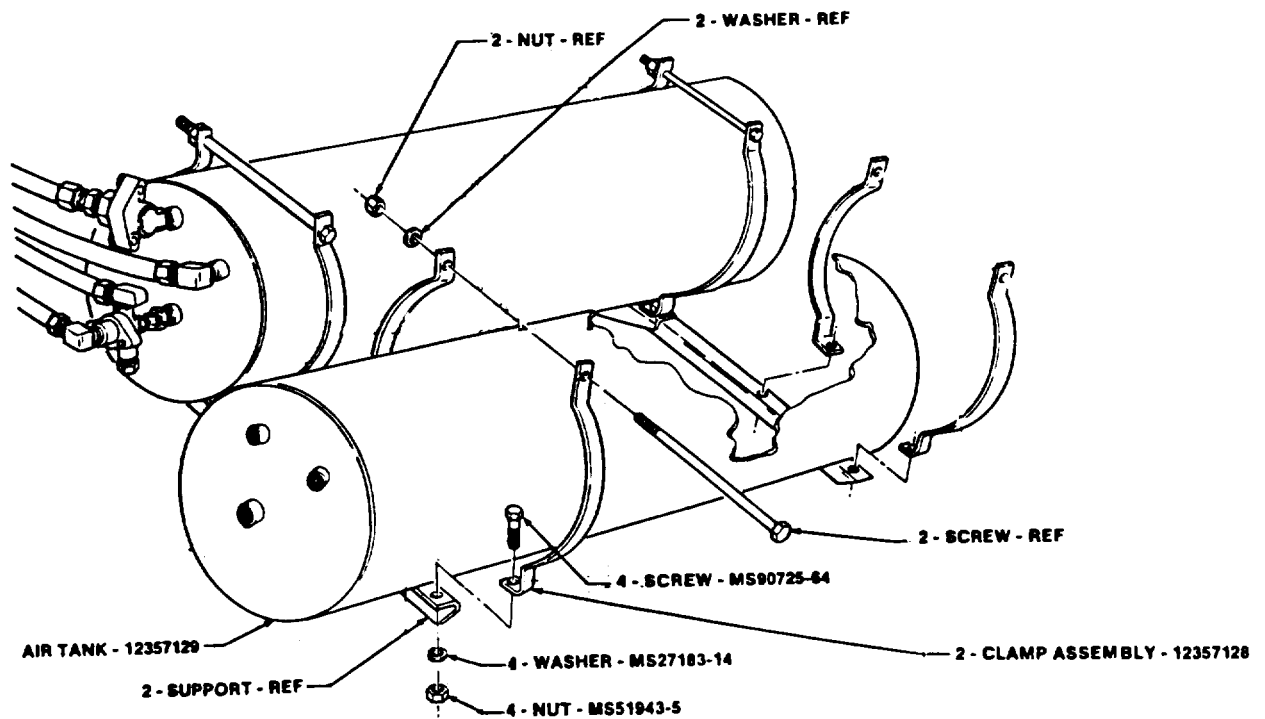

FIGURE 8
(1) Install 12357129 air tank and two 12357128 clamp assemblies to two supports and secure with four MS90725-64 screws, MS27183-14 washers, and MS51943-5 nuts as shown in figure 8. Tighten nuts finger tight.
(2) Install two screws through two clamps and secure with two washers and nuts as shown in figure 8. Tighten nuts finger tight.